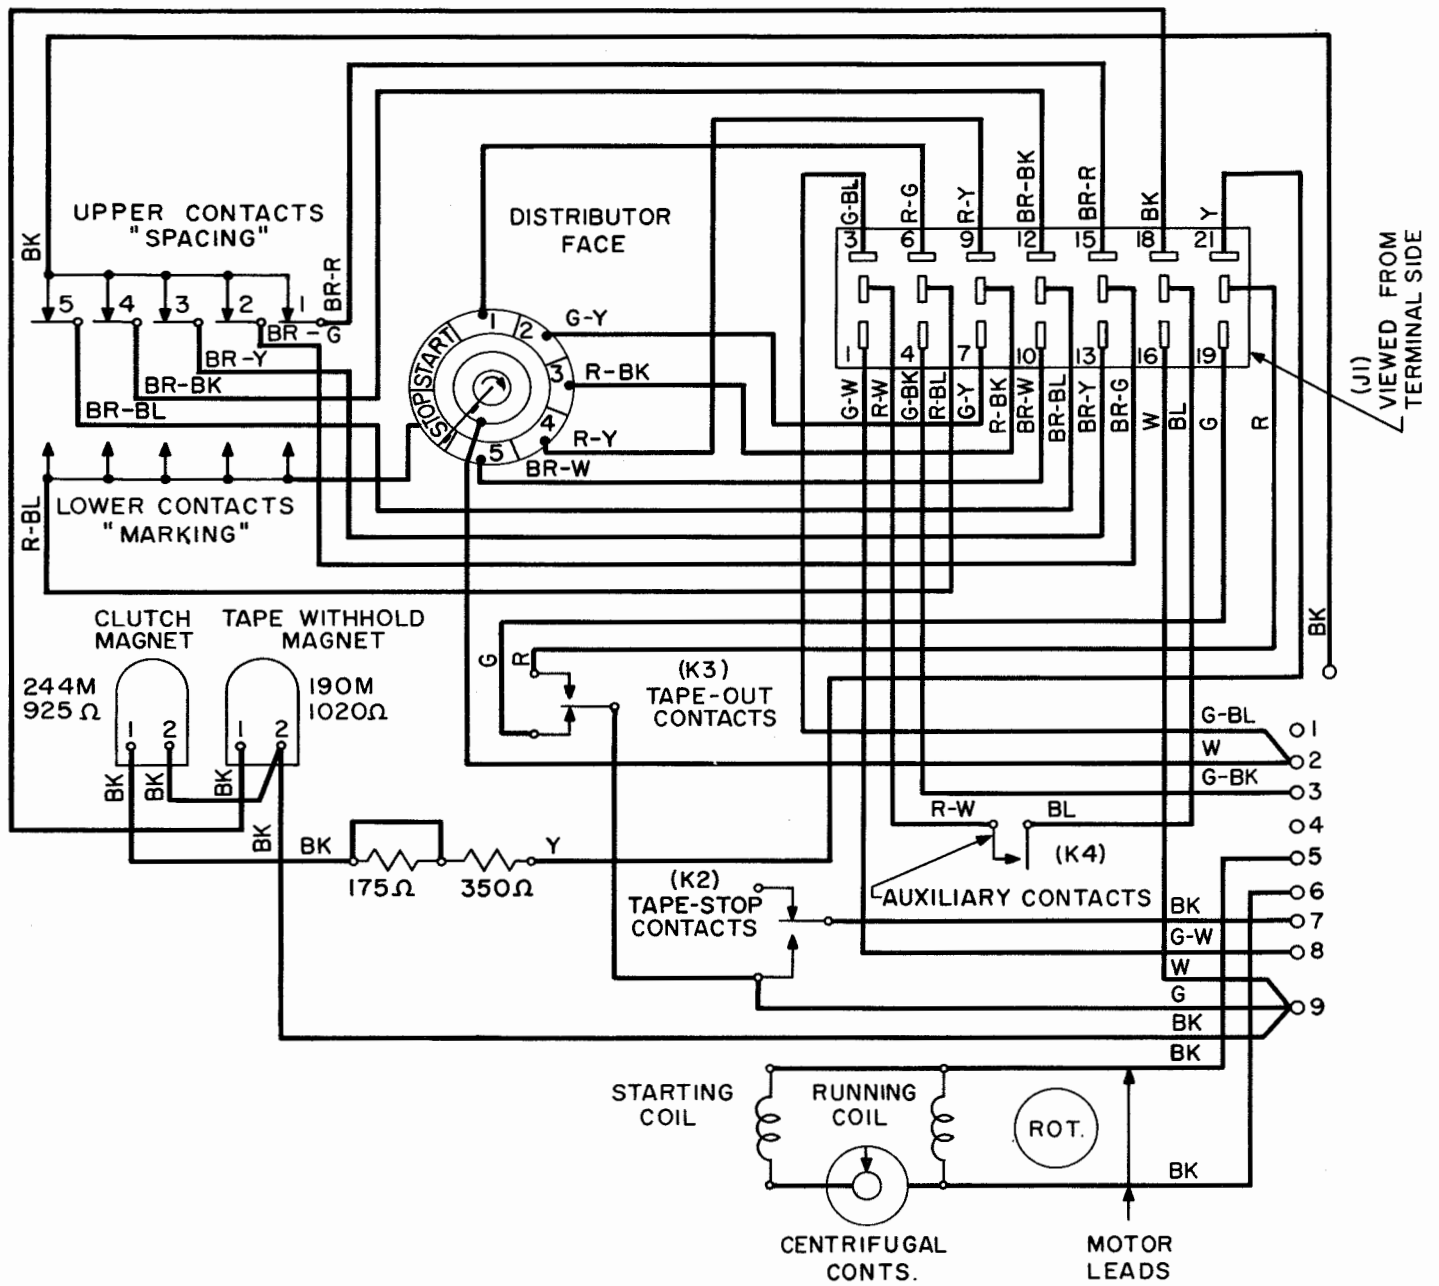

Figure 13 - BK14 Transmitter-Distributor
1.08 Figure 13 shows the transmitter-distributor used with the Teletypewriter Automatic Dispatch System (TADS).